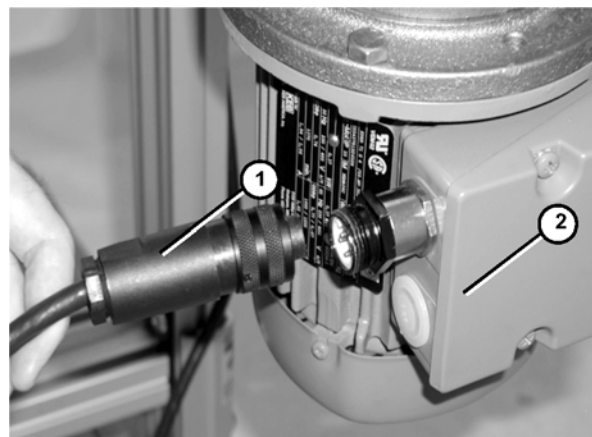

Figure 8
1. Connect motor cord (**Figure 8, item 1**) to motor (**Figure 8, item 2**).